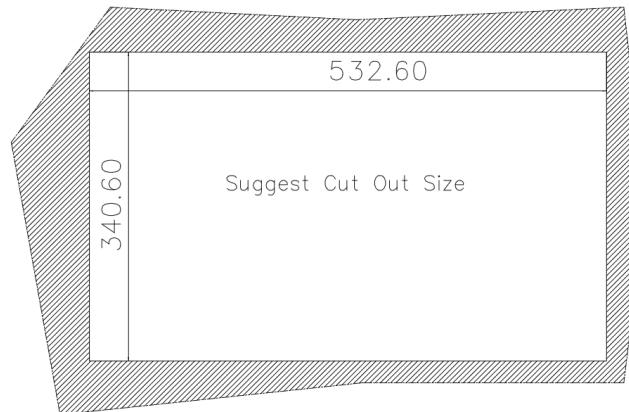

**Figure 3-17: PPC2-C15-EHL Panel Cutout Dimensions**
**Step 2:** Cut out a section of the panel that corresponds to the rear panel dimensions of the PPC2-Cxxx-EHL Series. The recommended cutout sizes are shown below (**Figure 3-14**, **Figure 3-15** , **Figure 3-16** , **Figure 3-17** , **Figure 3-18**, **Figure 3-19** , **Figure 3-20** , **Figure 3-21** , **Figure 3-22**).